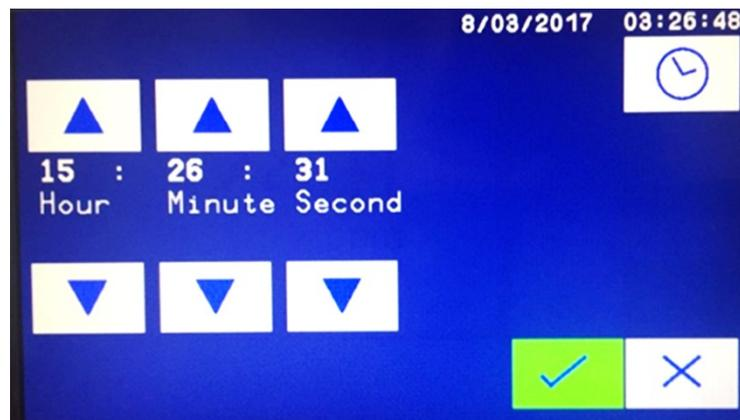
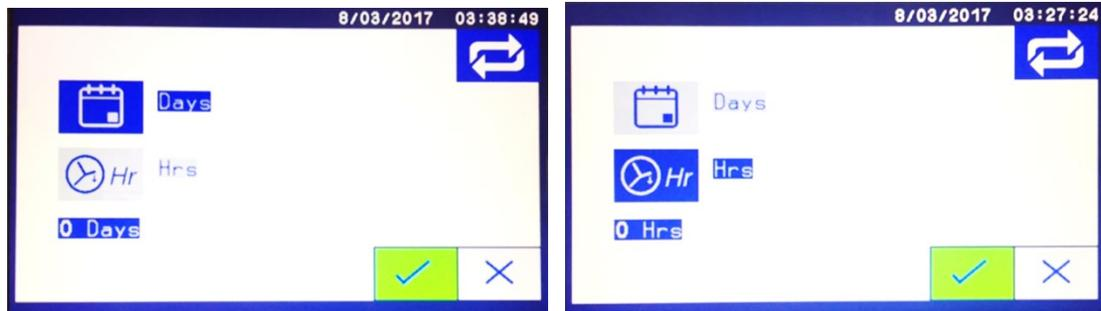

Figure 11-19: Auto-calibration Time of Day setup screen
Figure 11-20: Auto-calibration Repeat Timing setup screen: Left shows repeat Day, Right shows Hour set
Touch the  icon in Figure 11-19 to accept the Time and take you to the Repeat Timing screen. This is used to repeat the auto-validation / calibration sequence on a regular basis, every XX Days or every YY Hours.
- For auto-validation or auto-calibration all transducer settings for Date (see Figure 11-18), Time (see Figure 11-19), and Repeat Timing (see Figure 11-20) must be the same.